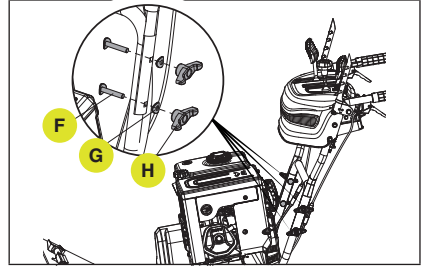

Figure 3
2. Connect the upper and lower handle with bolts (F), washers (G) and locking knobs (H) (Fig. 3). Torque until snug. Do not overtighten.
1. Attach the connecting lever (A) and connecting base with clip under the panel. Remove the washer and clip, insert as shown into the connecting base, then install the washer (B) and clip (C). Make sure the spring (D) is loaded on the correct side. (Fig. 3)